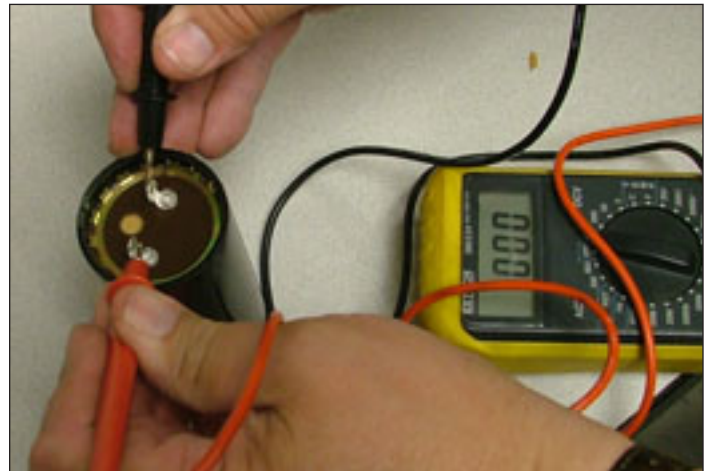

Figure 25. Testing Capacitor
4. Set ohmmeter to highest scale. Connect ohmmeter probes to capacitor terminals (Figure 25).